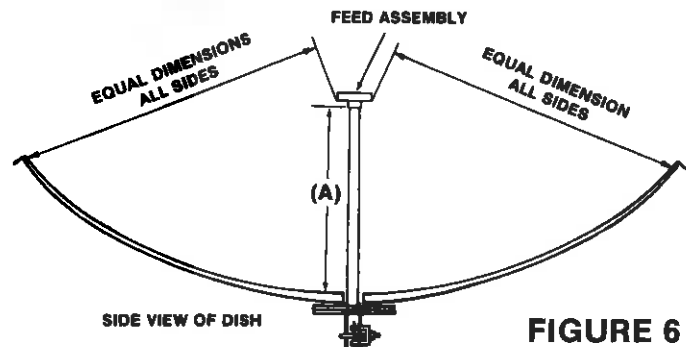

FIGURE 6
STEP 8. With antenna completely assembled, installed on mount and aimed in the approximate direction of satellite belt, check the alignment of the feed assembly to the center of the reflector. See figure 6. All distances must be equal or bore sight of antenna will not match measurements made on mount.